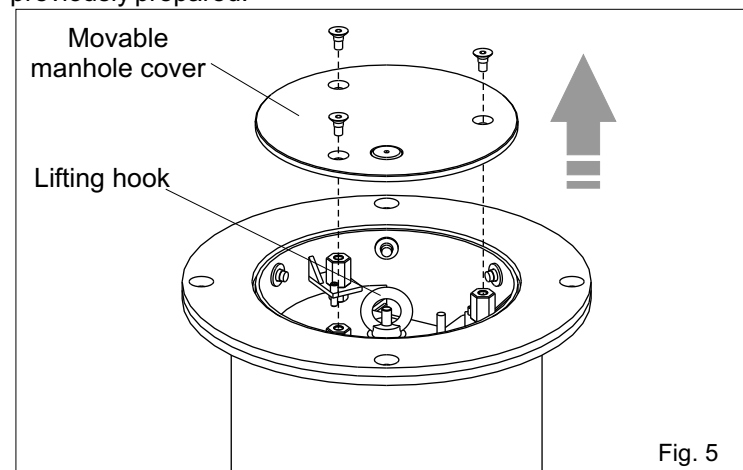

Fig. 5
**2.1.** Remove the movable access cover unscrewing the three screws as in Fig. 5.